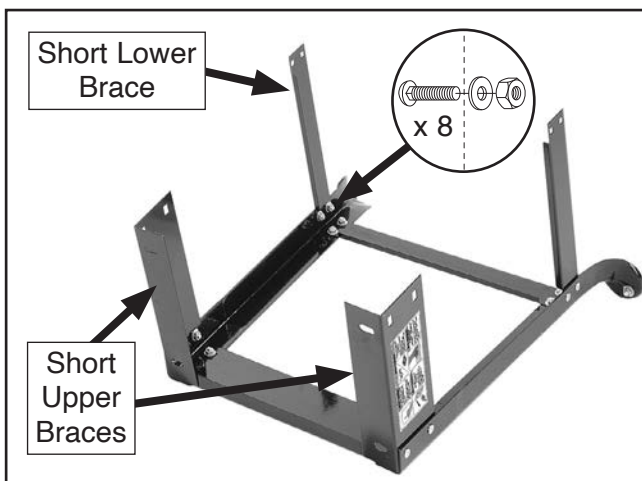

Figure 19. Short upper and lower braces fastened to leg assembly.
4. Repeat **Step 3** to fasten the (2) remaining long upper and long lower braces to the remaining stand legs.
5. Fasten the (2) short upper braces and the (2) short lower braces to (1) of the leg assemblies with (8) $\frac{5}{16}$ "-18 x $\frac{1}{2}$ " carriage bolts, $\frac{5}{16}$ "-18 hex nuts, and $\frac{5}{16}$ " flat washers, as shown in **Figure 19**.